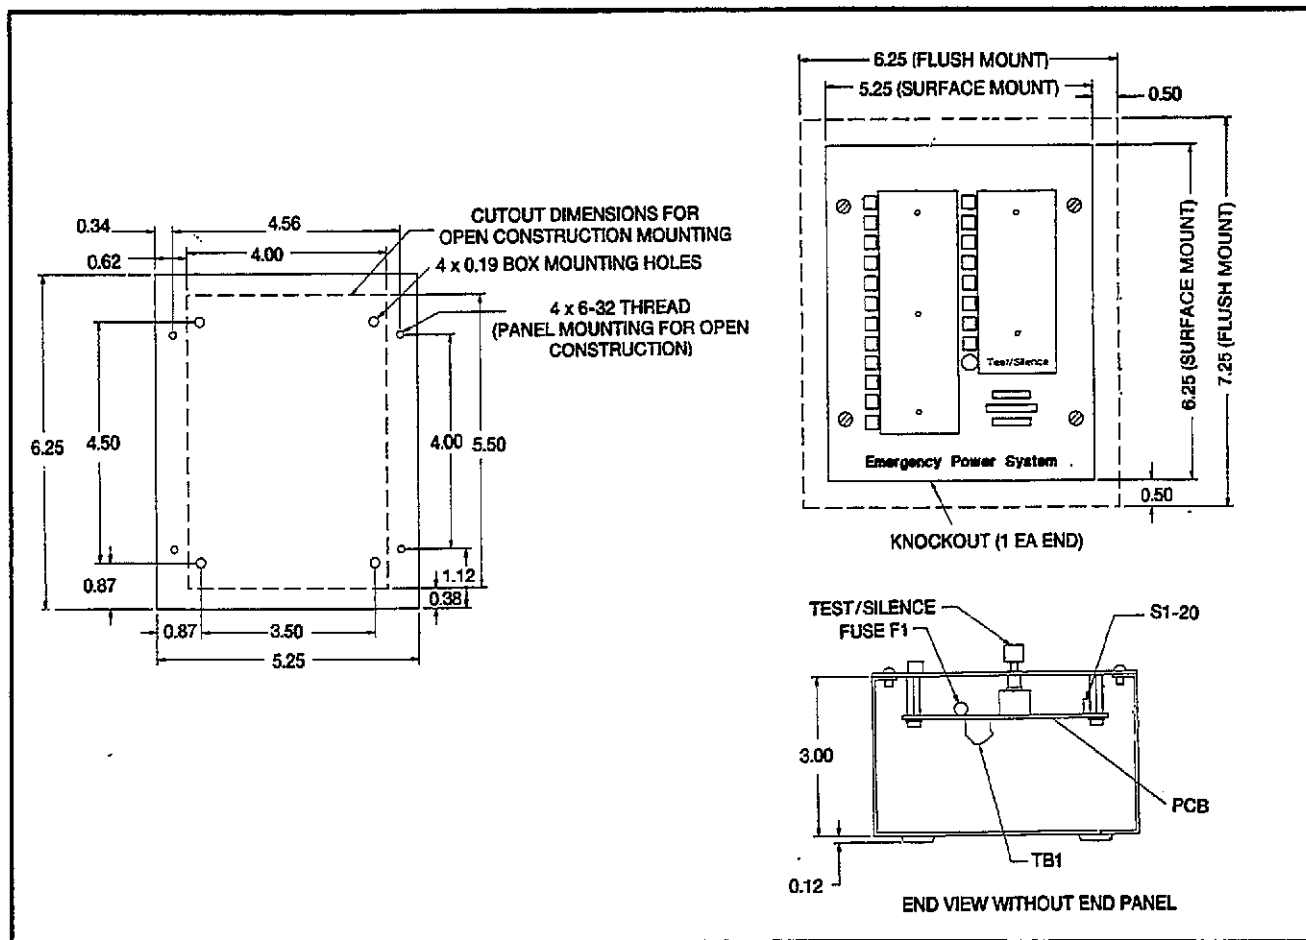

FIGURE 2. INSTALLATION
1. Remove the junction box on models for surface or flush mounting and mount the box at the desired location (Figure 2). For open mounted models (no junction box) cut out a 4 x 5-1/2 inch opening for mounting at the desired location.